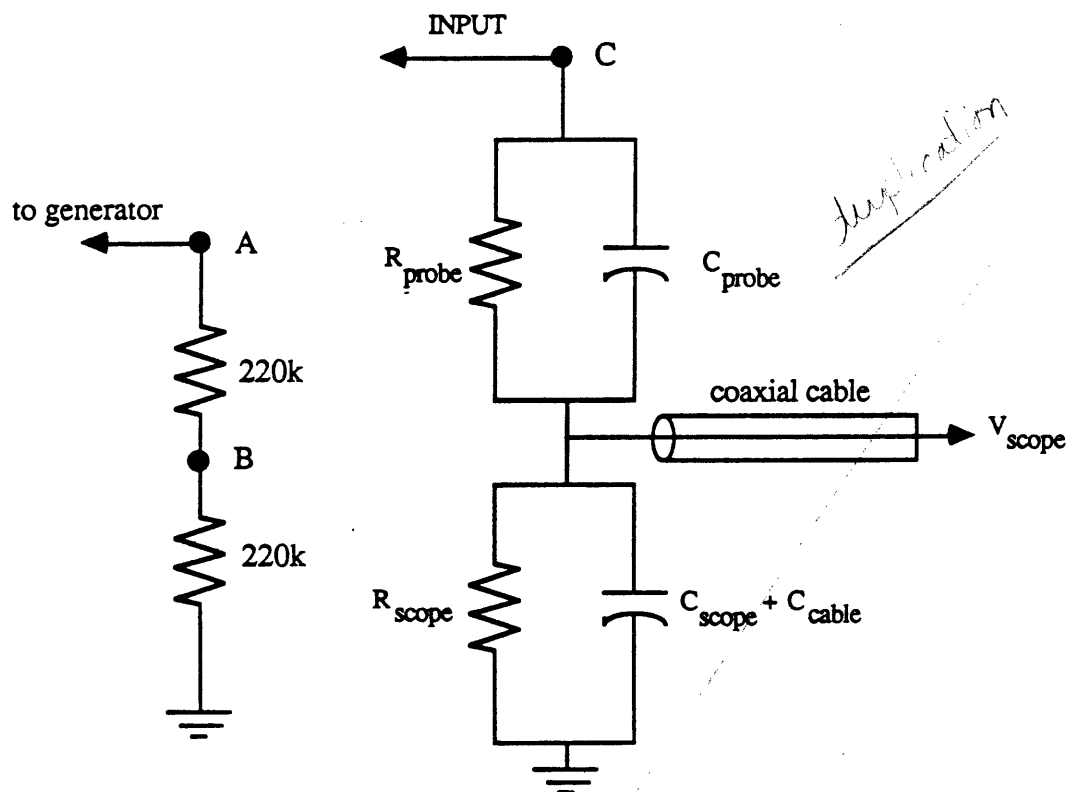

Figure 4.6 - Compensated scope probe circuit
4. The frequency dependent terms in the combined probe/scope input circuit transfer function (V_o/V_s) drop out when Eqn. 4.1 is satisfied. Find the transfer function of the circuit in Figure 4.6 and prove that it is frequency independent when Eqn. 4.1 is satisfied.